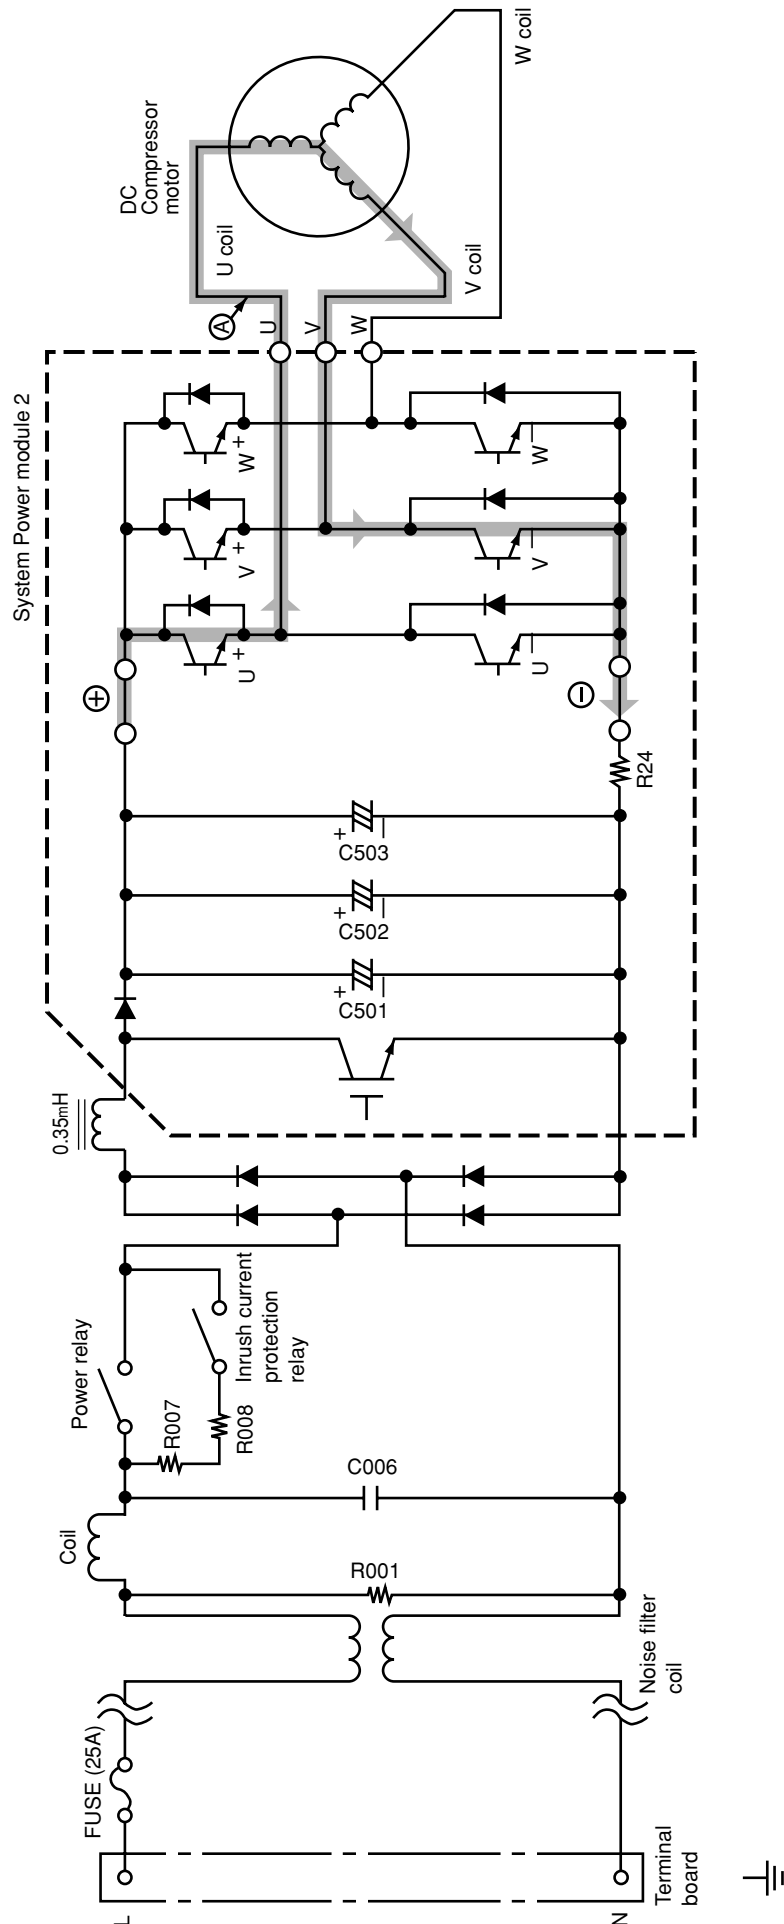
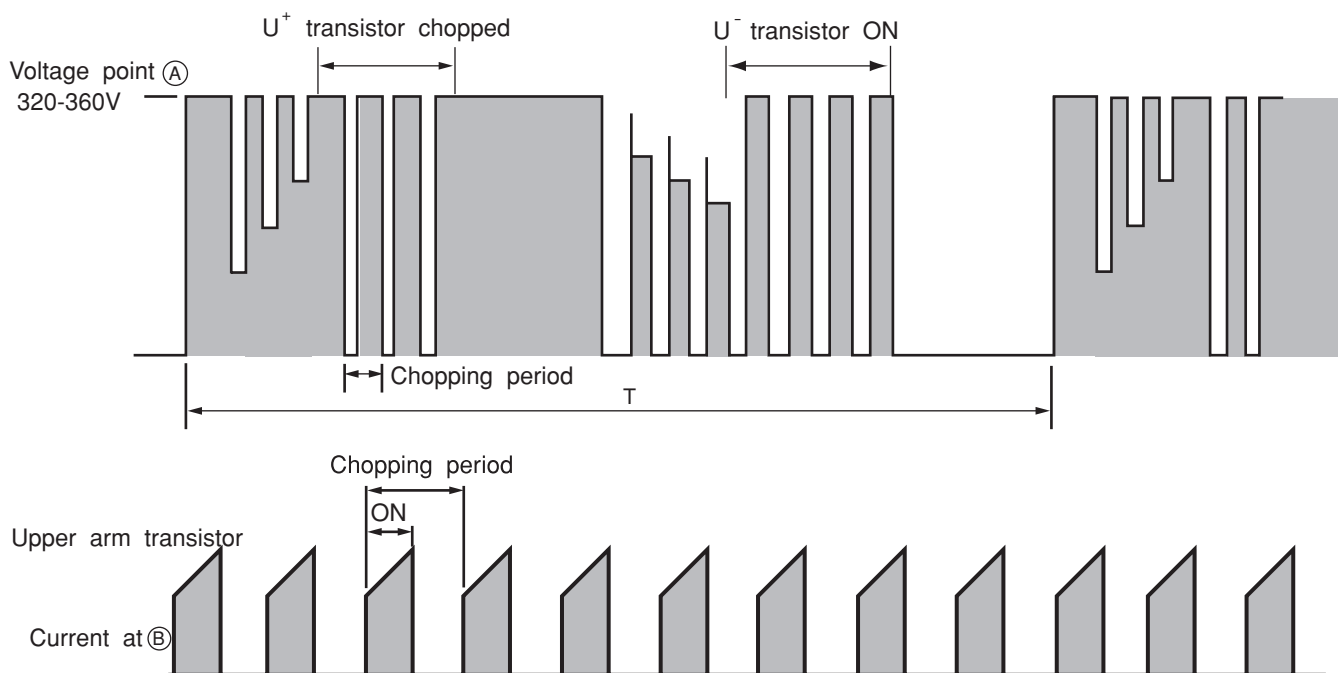

Fig. 3-1 Power module circuit (U+ is ON, V- is ON)
Fig. 3-3 Voltage waveform at each point
- Fig. 3-1 shows the system power module and its peripheral circuit. (Current ACT module and power module are combined into one unit.) The three transistors on the positive  $\oplus$  side are called the upper arm, and the three transistors on the negative  $\ominus$  side, the lower arm.
※ At point E: U+ is ON, V- is ON (circuit in Fig. 3-1)
- Fig. 3-3 shows voltage / current waveform at each point shown in Figs. 3-1 and 3-4. First half of upper arm is chopper, second half is ON, and first half of lower arm is chopper, second half is ON.
- When power is supplied U+ → U-, because of that U+ is chopped, current flows as shown below; ②
- (1) When U+ transistor is ON: U+ transistor → U coil → V coil → V- transistor → DC current detection resistor → Point ② (Fig. 3-1)
- Since current flows at point ⓑ only when U+ transistor and V- transistor is ON, the current waveform at point ⓑ becomes intermittent waveform as shown in Fig. 3-3. Since current at point ⓑ is approximately proportional to the input current of the air conditioner, input current is controlled by using DC current (Id) detection resistor.